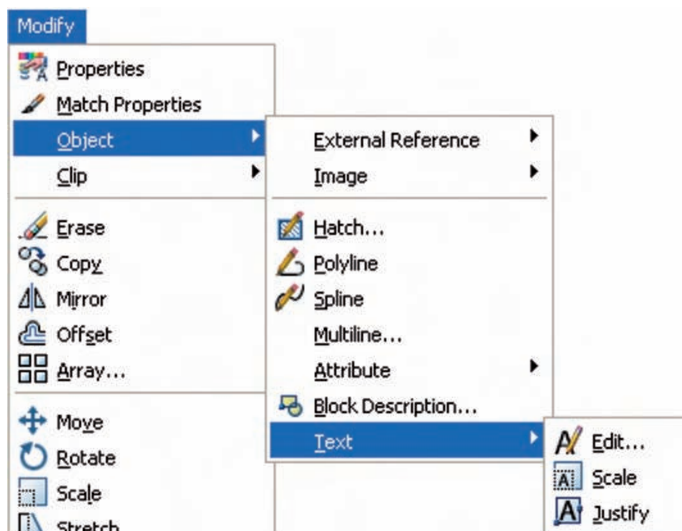

Fig. 6.38 Selecting **Edit . . .** from the **Text** sub-menu of the **Modify** drop-down menu
2. Left-click on **Edit . . .** from the **Text** sub-menu in the **Modify** drop-down menu (Fig. 6.38) or enter **ddedit** at the command line.